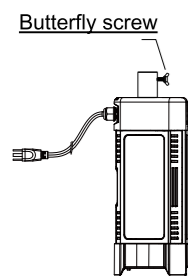

Figure 5
1. Screw the round pipe into light base.(Figure 5)